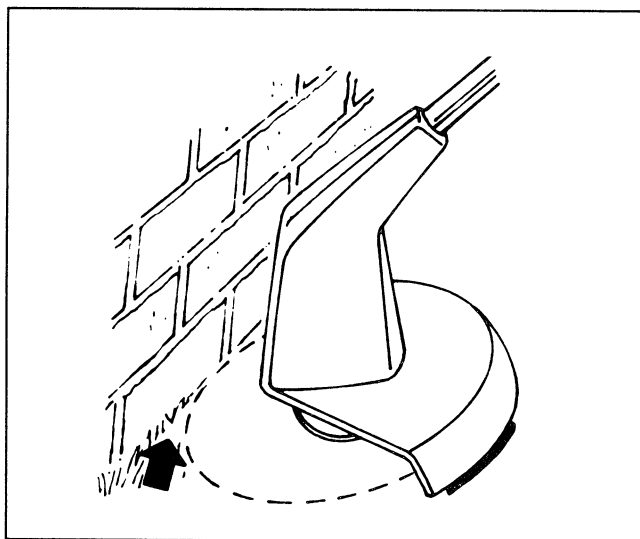

Figure 10
2. **DO NOT FORCE THE UNIT.** Allow the very *tip* of the nylon line to do the cutting (especially along walls) (Fig. 10). Cutting with more than the tip will reduce cutting efficiency and overload the motor.